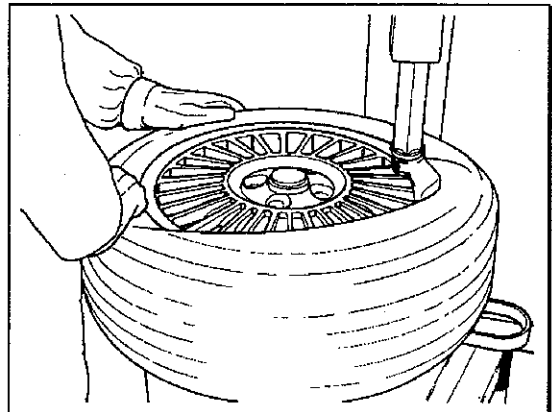

Fig.19
G. Rotate the turntable clockwise and at the same time push down on the tire sidewall to move the bead into the drop center of the rim (Fig.19).